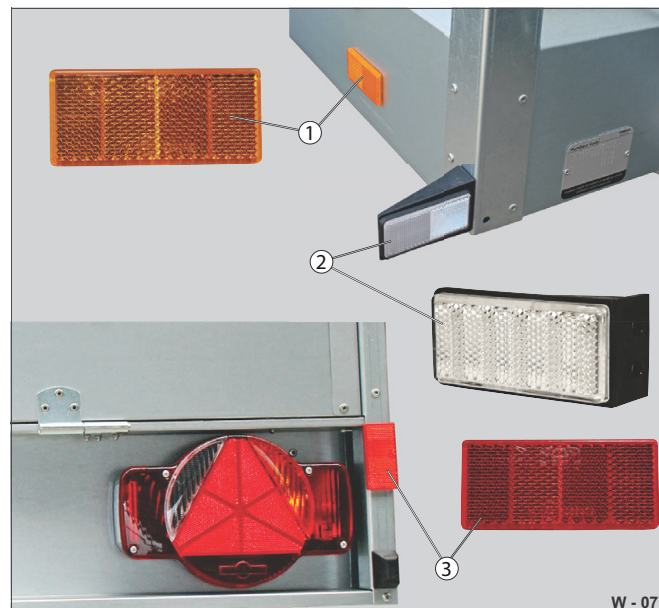

Fig. 78 Retro-reflectors / reflectors
- Pull a faulty reflector (Fig. 78 /1, 2,3) off the surface.